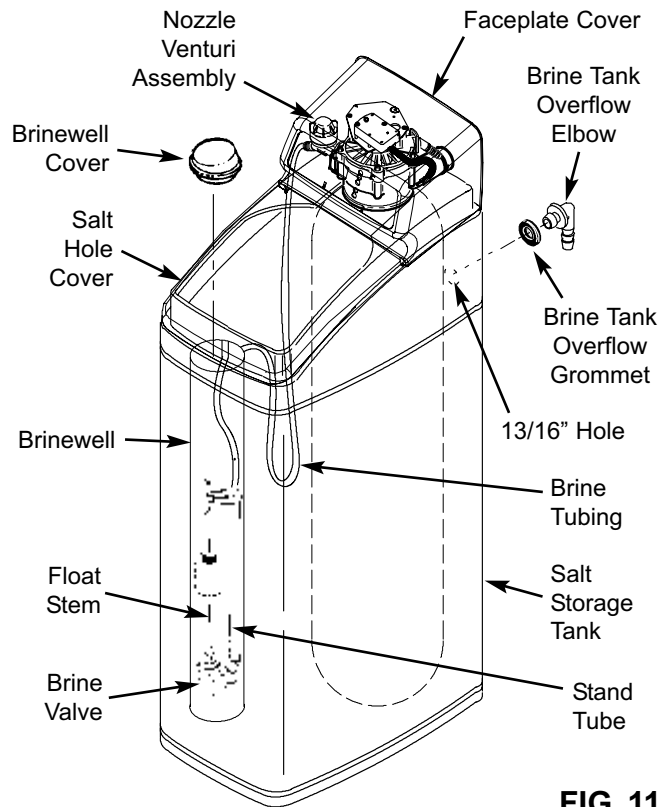

FIG. 11
1. Morton® System Saver® models are factory assembled. During installation, remove the Salt Hole Cover and set it aside to prevent damage. Check the brinewell to be sure it is secured and vertical (See Figure 11). Slide Faceplate Cover forward to expose back valve assembly.